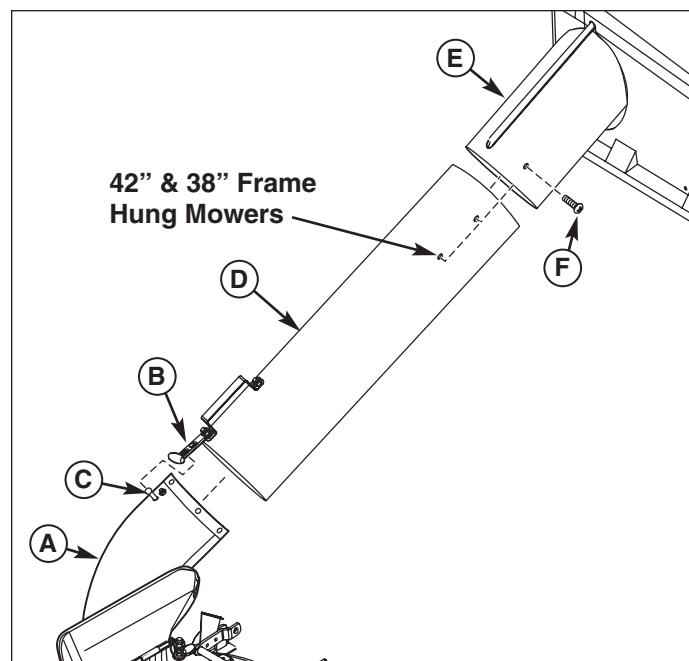

Figure 15. Install Middle Tube
2. Slide middle tube (D, Figure 15) into upper tube (E).
3. Slide middle tube (D) over boot (A). Pull strap (B) and place hole completely over pin (C).
4. Secure upper tube (E) over middle tube (D) and secure tubes together using 1/4 x 3/4 screw (F) and correct hole.